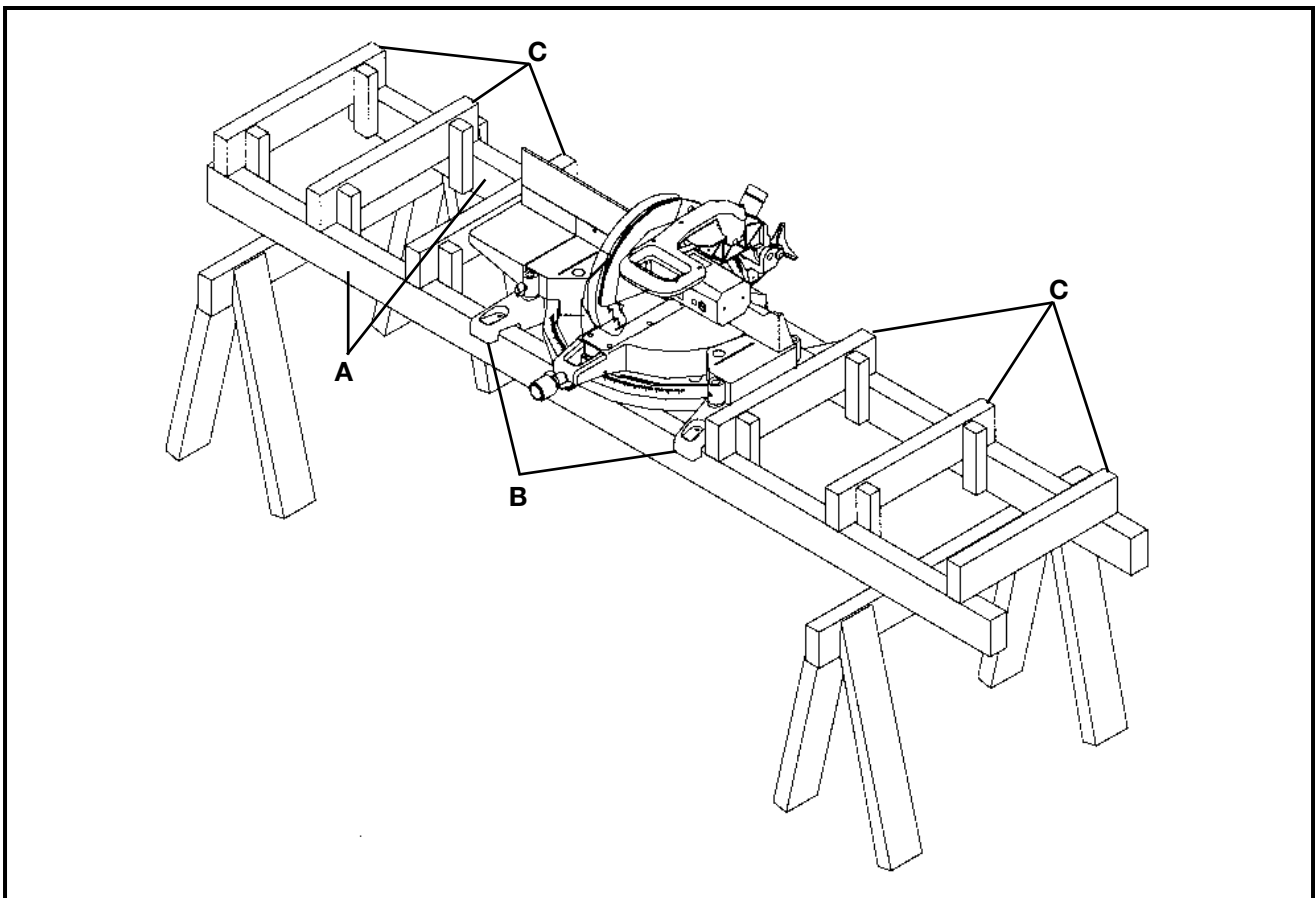

Fig. 41
One of the unique features of the miter saw is the ease of constructing work supports. Fig. 41 illustrates the miter saw mounted to two standard 2 x 4's (A). Fasten the grooves in the two mounting legs (B), to the 2 x 4's, using four screws through the four holes in the mounting legs. The length of the 2 x 4's (A) can vary, depending on preference. The distance from the top of the 2 x 4's (A) to the compound miter saw table  $3 \frac{1}{4}$ ". Standard 2 x 4's (C) can then be fastened to the top of the 2 x 4's (A). The top of the 2 x 4's (C) will then be the same height as the miter saw table, or minor adjustments can easily be made depending on the height of the 2 x 4's. This method will provide support for long workpieces using standard 2 x 4's instead of constructing an expensive, complicated work support.